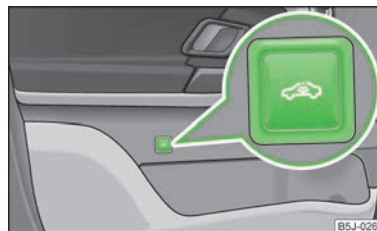

Fig. 15
- Press the button  » Fig. 15 in the driver's door.